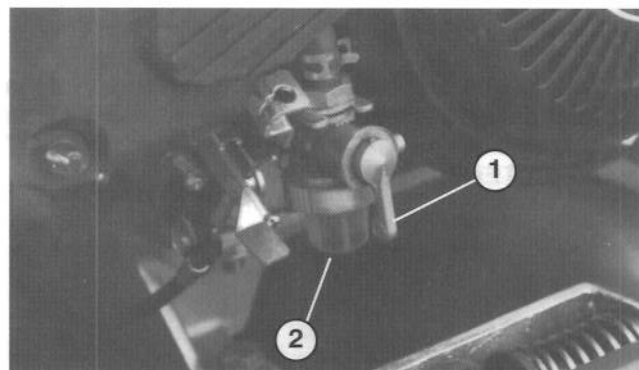

Figure 30
1. Close fuel shut off valve and unscrew bowl from filter body (Fig. 30).